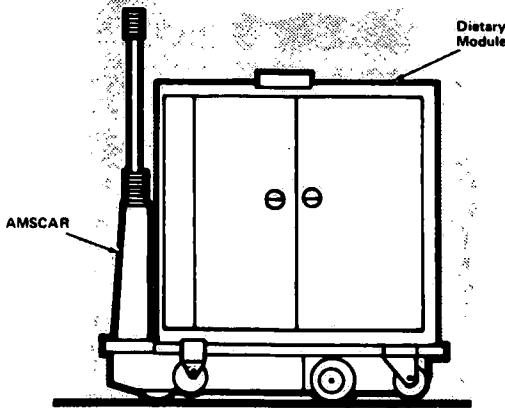

Figure 2-2. AMSCAR MODULE MOUNTED ON AMSCAR.
- align the two units and, using push-pull bar recessed in Amscar Module side panel, push Module onto the AMSCAR (Fig. 2-2). Do not push on doors or panels. A distinct latching sound will be heard when Amscar Module is fully engaged. (There should be a 3/8" space between Module and AMSCAR.)